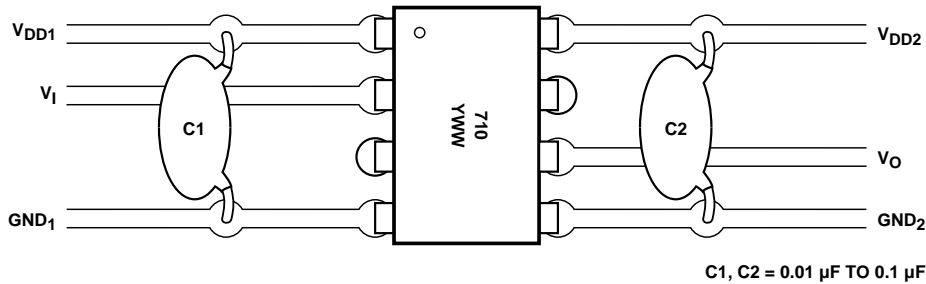

Figure 13. Recommended Printed Circuit Board Layout.
0.1  $\mu\text{F}$ . For each capacitor, the total lead length between both ends of the capacitor and the power-supply pins should not exceed 20 mm. Figure 13 illustrates the recommended printed circuit board layout for the HPCL-x710.